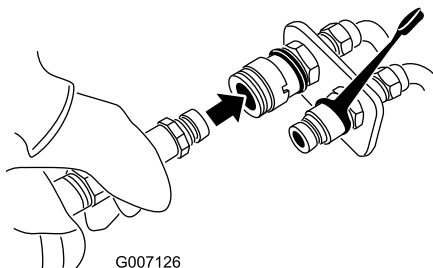

Figure 33
6. Push the attachment male connector into the female connector on the traction unit (Figure 33).